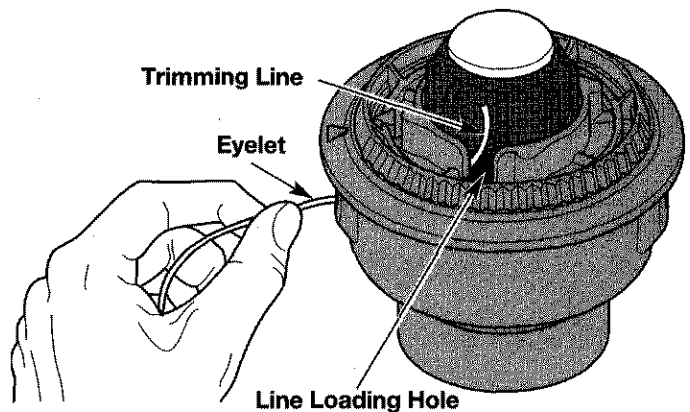

Fig. 20
3. Pull old line out of the line loading and line locking holes (Figs. 20 and 21).
4. Insert a piece of trimming line into one of the two eyelets in the outer spool. Push it up through the line loading hole in the inner reel (Fig. 20). Do not bend the line when inserting it into the eyelet.